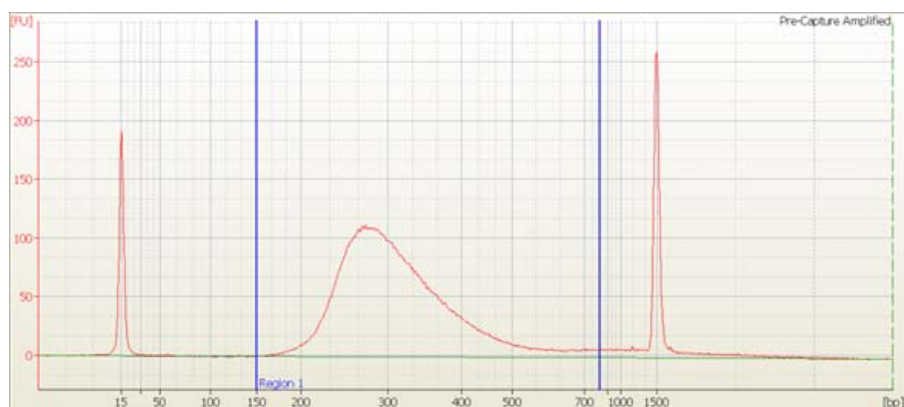

Figure 3 DNA 1000 Assay analysis of amplified library DNA prepared using the 1-µg DNA input Sample Preparation protocol.
- 7 Verify that the electropherogram shows a distribution with an average DNA fragment size of approximately 250 to 275 bp. A sample electropherogram is shown in Figure 3.